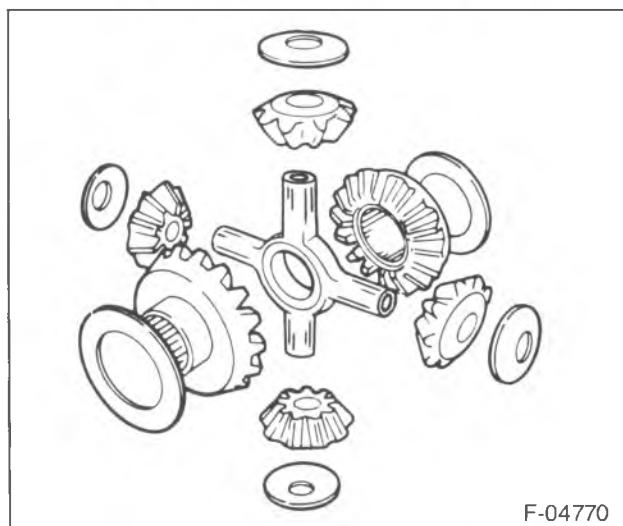

Figure 9—Differential Components
- 10. Side gears (43) and thrust washers (38) (figure 9).
- 11. Pinion gears (41) and thrust washers (42).
- 12. Differential pinion spider (40).
- 13. Ring gear nuts (34), washers (35), and bolts (39).
- 14. Ring gear (37) from the differential case.